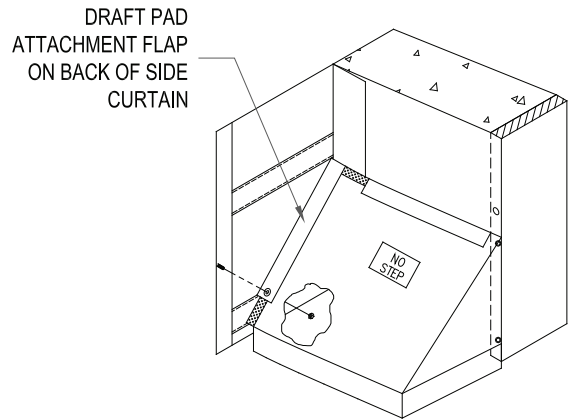

Figure 4
- 3B. If there is a Velcro attachment flap on the back of the side curtain, align the Velcro along the front edge of the draft pad with the Velcro attachment flap on the back of the side curtain. Reference Figure 4.